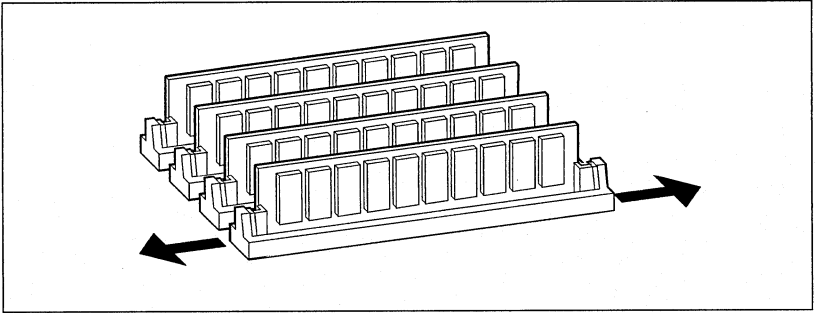
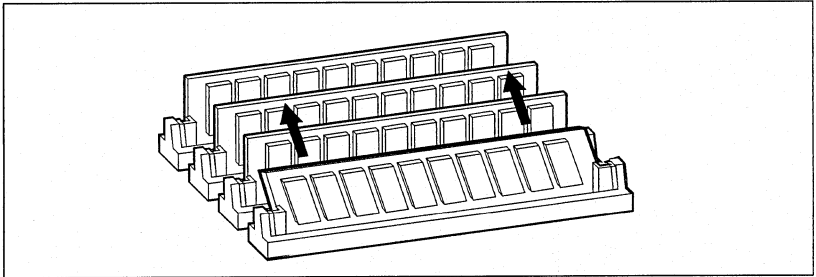

fig. 5-9
fig. 5-10
6. If necessary, remove any memory modules that you are going to replace. Remove the modules by pulling the retaining brackets slightly away from the module (fig. 5-9) and rotating the memory module until it is at a 45° angle (fig. 5-10). Lift the memory module out of the socket.